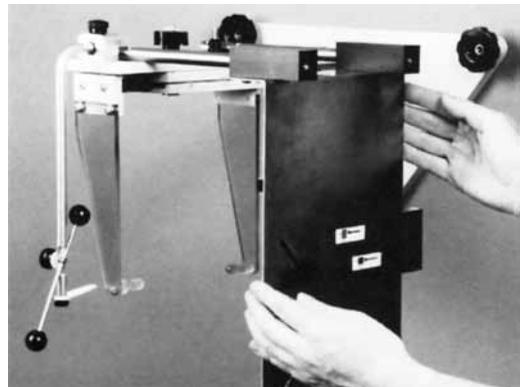

Figure 12
3. Slide the cassette carrier assembly off of the travel rods (Figure 12).